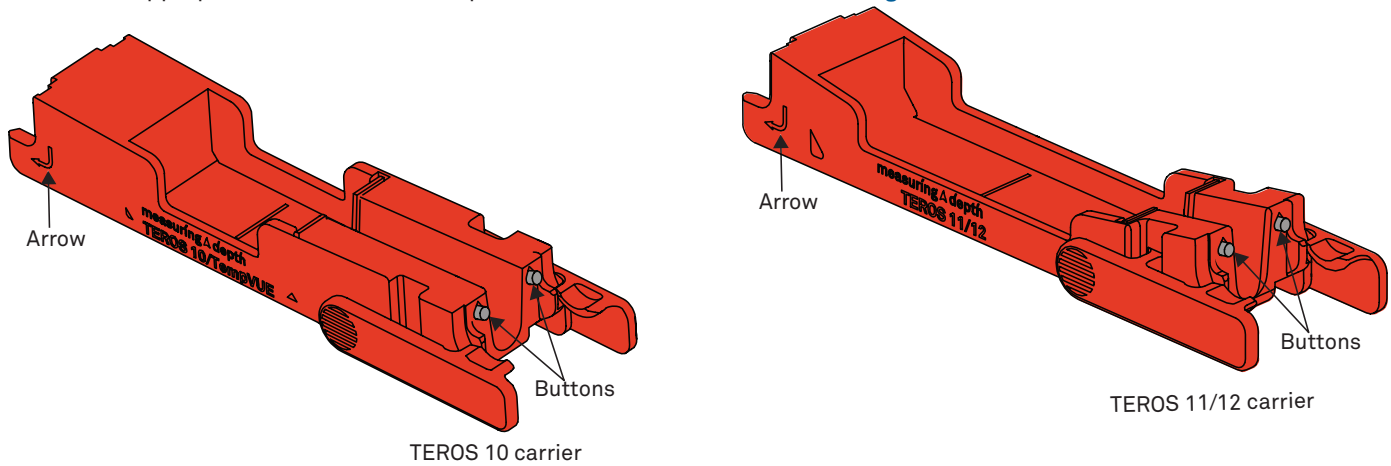
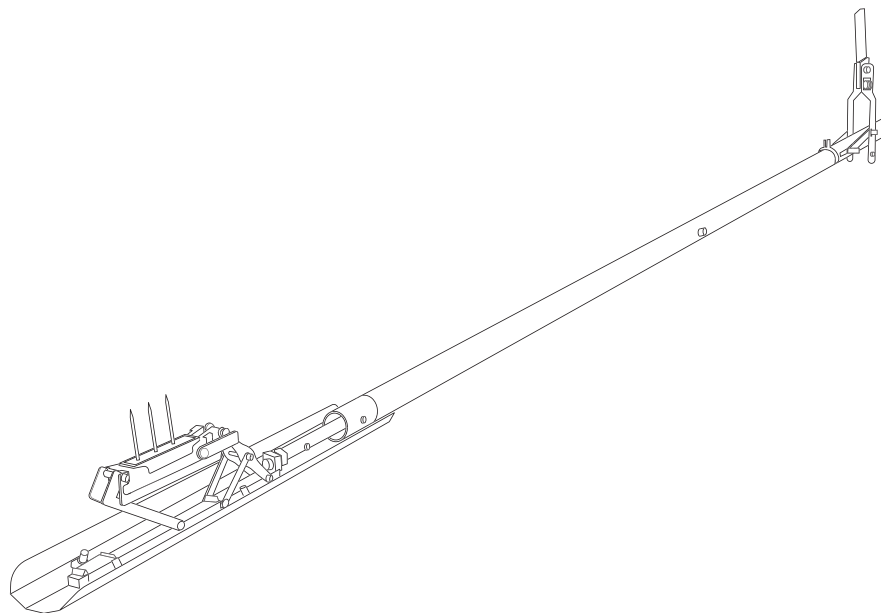

Figure 12 TEROS 10 and 11/12 sensor carriers
Figure 14 TEROS 12 sensor inserted in sensor carrier with mount extended
1. Select the appropriate carrier that corresponds to the sensor to be installed (Figure 12).
2. Find the **Arrow** at one end of the sensor carrier (Figure 12).
1. Position the sensor into the corresponding carrier (Figure 14 shows the TEROS 12 inserted into the carrier).
NOTE: The sensors can only be inserted while the carrier mount is in the extended position as shown in Figure 14. When the handle lever is moved into the retracted position, the two buttons on the front of the sensor carrier extend (Figure 12) to hold the sensor in place.
3. Press the sensor cable into the carrier cable slot (Figure 14).